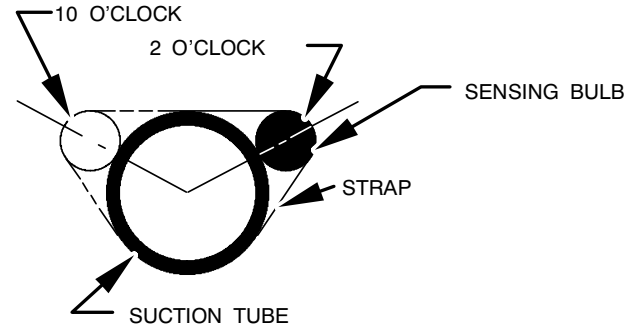

Fig. 28 – Position of Sensing Bulb
8. Attach TXV bulb to horizontal section of suction line using clamps provided. Insulate bulb with field-supplied insulation tape. See Fig. 28 for correct positioning of sensing bulb.
9. Reinstall TXV support clamp (removed in item 3).
10. Attach TXV bulb to vapor tube inside cabinet, in same location as original was when removed, using supplied bulb clamps (nylon or copper). See Fig. 28 for correct positioning of sensing bulb.
8. Reinstall TXV support clamp (removed in item 3). (N coils only.)